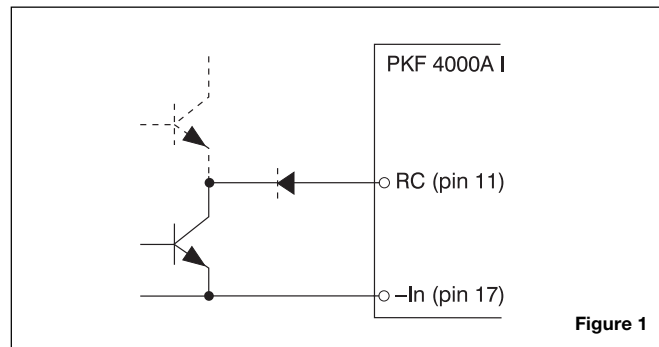

Figure 1
Turn-on or turn-off can be realized by using the RC-pin. If pin 11 is connected to pin 17 the power modules turns off. Normal operation is achieved if pin 11 is open (NC). To ensure safe turn-off the voltage difference between pin 11 and 17 shall be less than 1.0V. RC is an open collector compatible input. A sink capacity of 1mA is needed. (see fig.1).